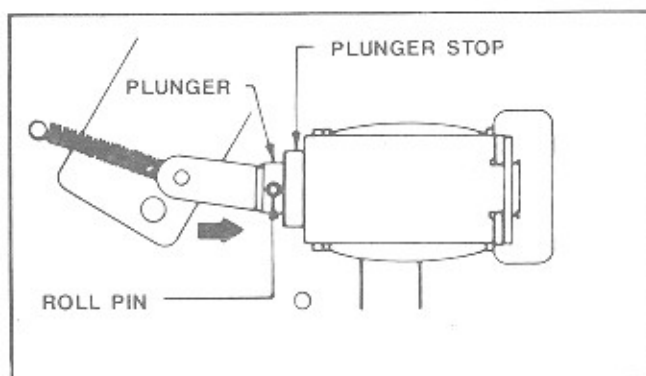

Figure 6-7. Sprag Assembly (Plunger)
1. Refer to figure 6-7. Depress solenoid plunger until the roll pin bottoms on the plunger stop (actuate by pressing on plunger).